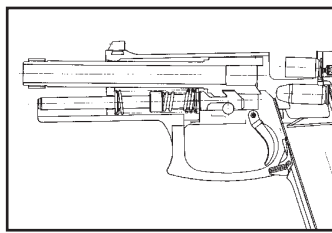

Figure 7
D. **Ejection** - (see Figure 7) - The rim of the cartridge case strikes the stationary ejector. The empty case is ejected from the open ejection port.
E. **Cocking** - (see Figure 7) - As the slide continues rearward the recoil impulse is dampened by the buffer spring. The recoil spring is compressed and the hammer recocks.